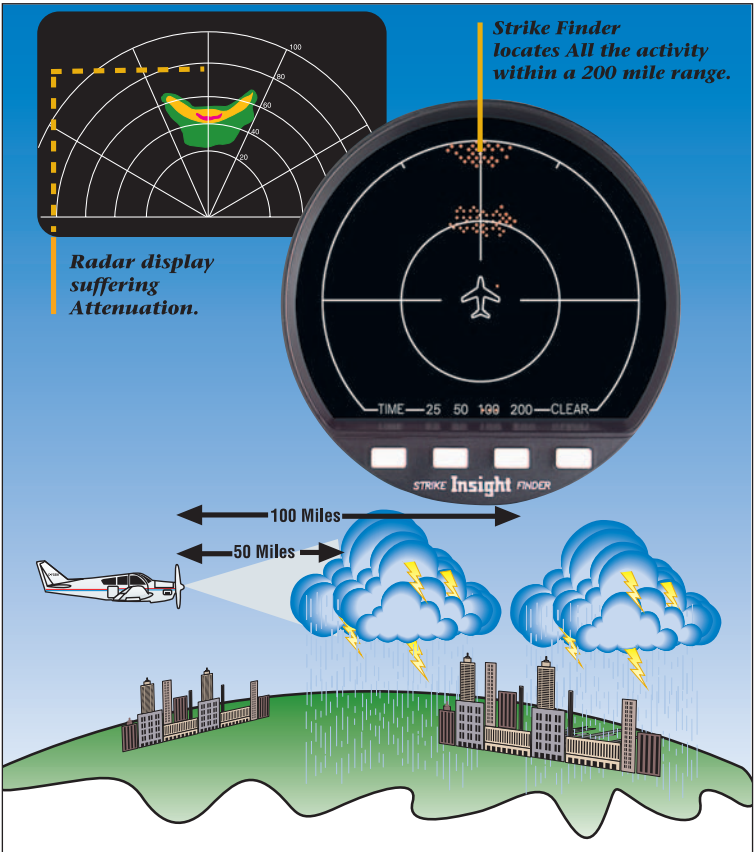

Figure 40. Radar Suffering Attenuation
- Attenuation is NOT a factor! Strike Finder shows ALL the activity, (see Figure 40, p.48).
This problem, called attenuation affects all radar, meaning heavy rain areas could scatter, or worse, totally block out the radar return from hazardous weather ahead, (see Figure 40, p.48).